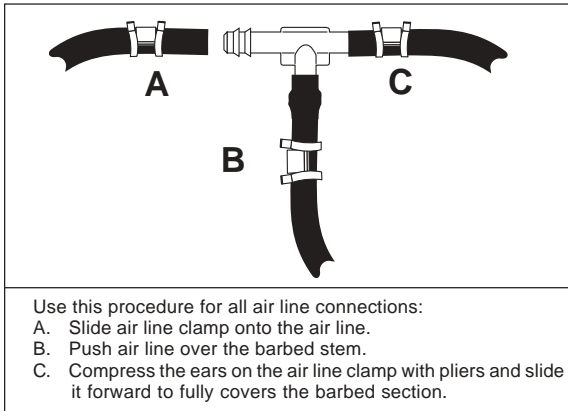

Figure 3
- d. Push the air line over one side of the tee until all the barbs are covered. Repeat procedure for other leg of tee. With pliers slide the air line clamp forward until it fully covers the barbed section. Repeat for other leg of tee (Figure 3).